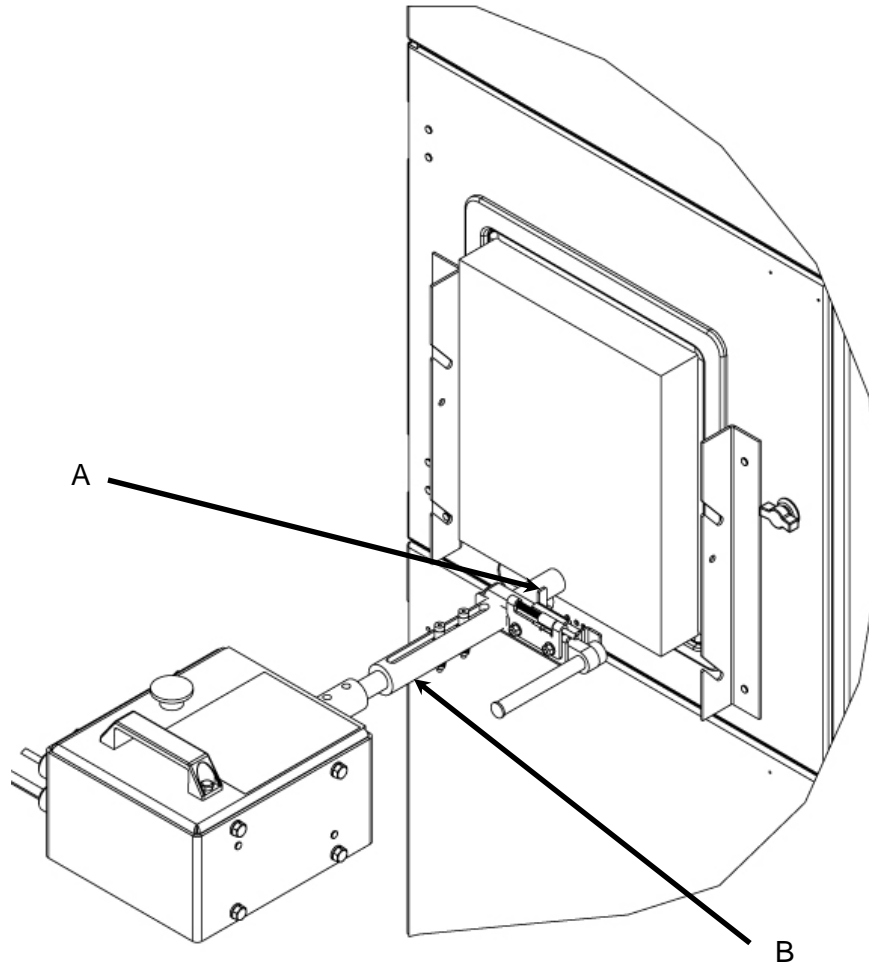

Fig. 4.1
1. Disengage the Handle Retainer by sliding the tab out of the slot on the edge of the Sliding Coupling and rotating behind the “catch” tab. The Retainer is spring loaded and will stay in place once engaged on the “catch” tab. See Fig.4.1, item A.
2. Move the Sliding Coupling away from Breaker Racking Handle into the fully retracted position. See Fig.4.1, item B.